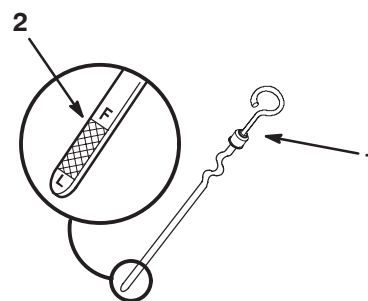

Figure 45
5. Slide the oil dipstick fully into the filler tube. Pull the dipstick out and look at the metal end (Fig. 45). If oil level is low, slowly pour only enough oil into the filler tube to raise the level to the full mark.